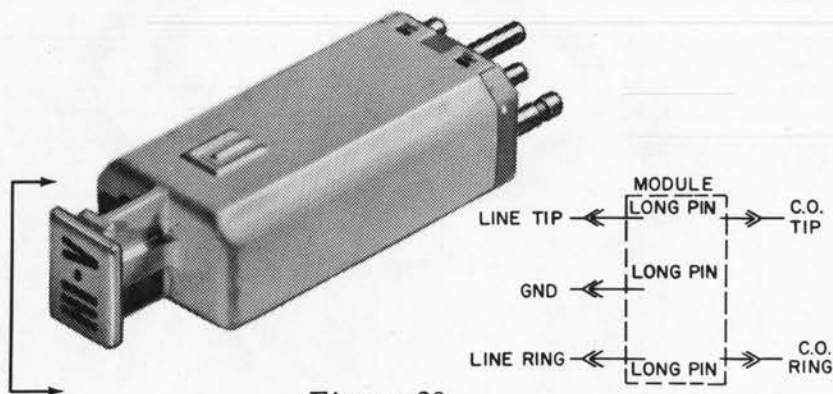

Figure 28
- 10.05 This white colored connector module is used as a warning marker for high voltage testing. The handle is marked "HI-V" in red for easy identification. No connections are made between any of the pins of this module. (See figure 28.)